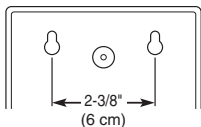

Figure 5 - Keyhole Mounting
- Using keyholes on back of chime base, hang base on screws (see Figure 5).